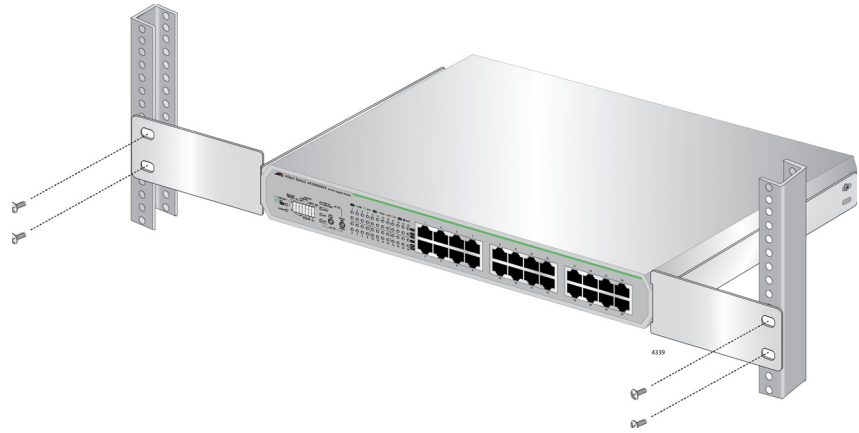

Figure 34. Attaching the Switch to Equipment Rack
4. Mount the switch in a standard 19-inch equipment rack with four equipment rack screws (not provided) as shown in Figure 34.